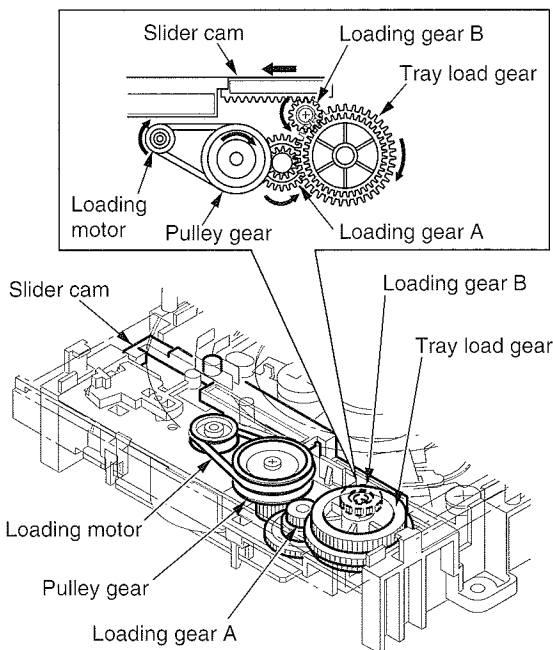
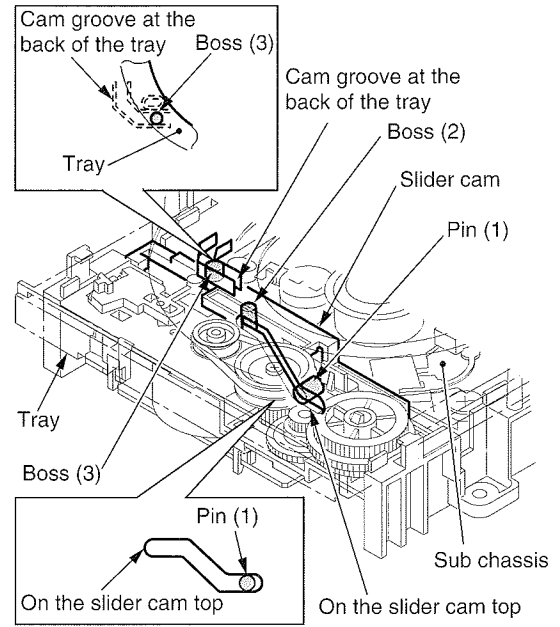

Fig. 1-3
Fig. 1-4
- Fig. 1-3 and Fig. 1-4 show the beginning of opening. First, the loading motor turns clockwise, rotates the loading gear B counterclockwise through the pulley gear, the loading gear A and the tray load gear, and moves the slider cam to the left. (Refer to Fig. 1-3.)